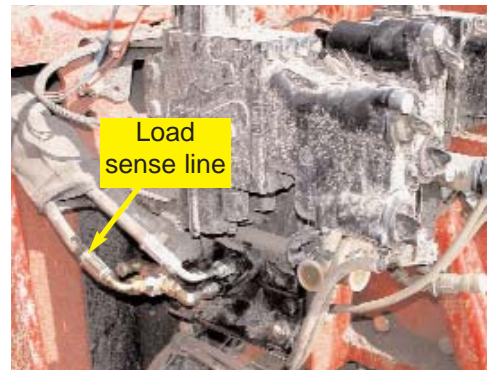

Figure 4c. Installed load sense shuttle.
- c. Disconnect the load sense line from the valve stack. Attach the center male fitting (**M**) of the load sense shuttle to the line removed from the valve stack. Install the female fitting (**L**) of the load sense shuttle to the valve stack port. Leave the load sense shuttle connections loose to allow for easier installation and secure after all connections are made. (Figure 4c.)